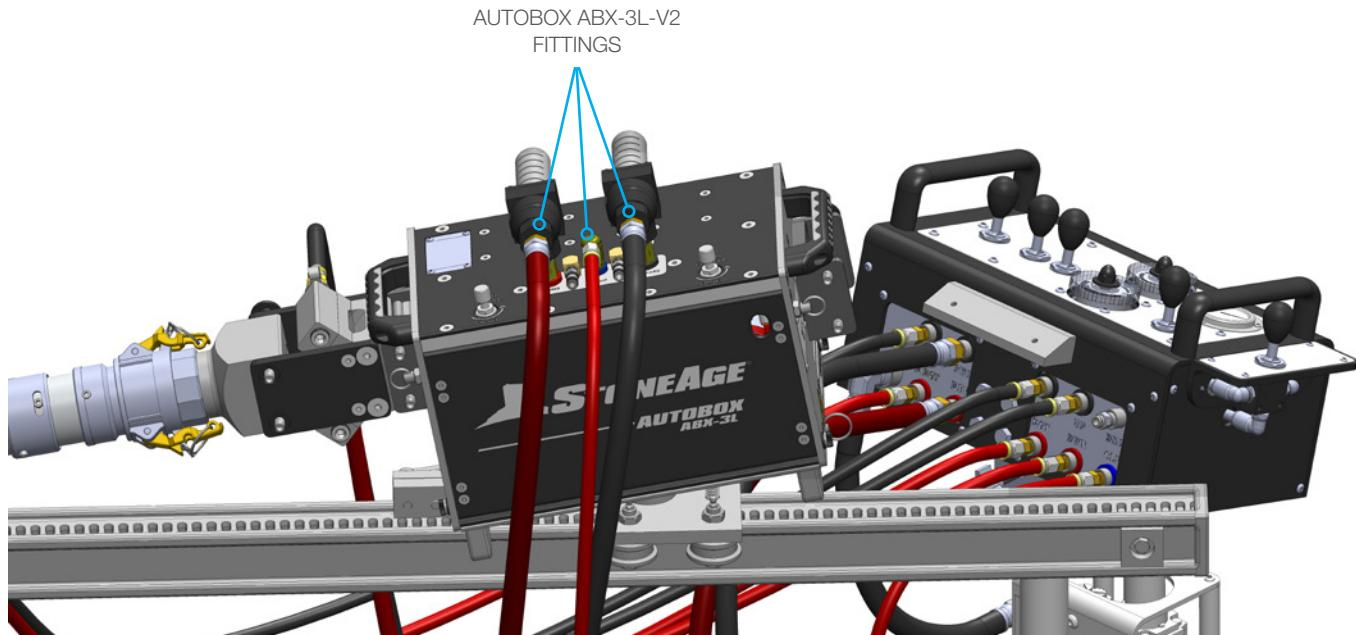

FIGURE 57
1. The hose bundle for the ABX-3L-V2 has two 1/2 in. lines and one 1/4 in. line. The 1/2 in. lines are Black for FWD and Red for REV. The 1/4 in. line is Red and connects to the Blue CLP fitting. (**Figure 57**)